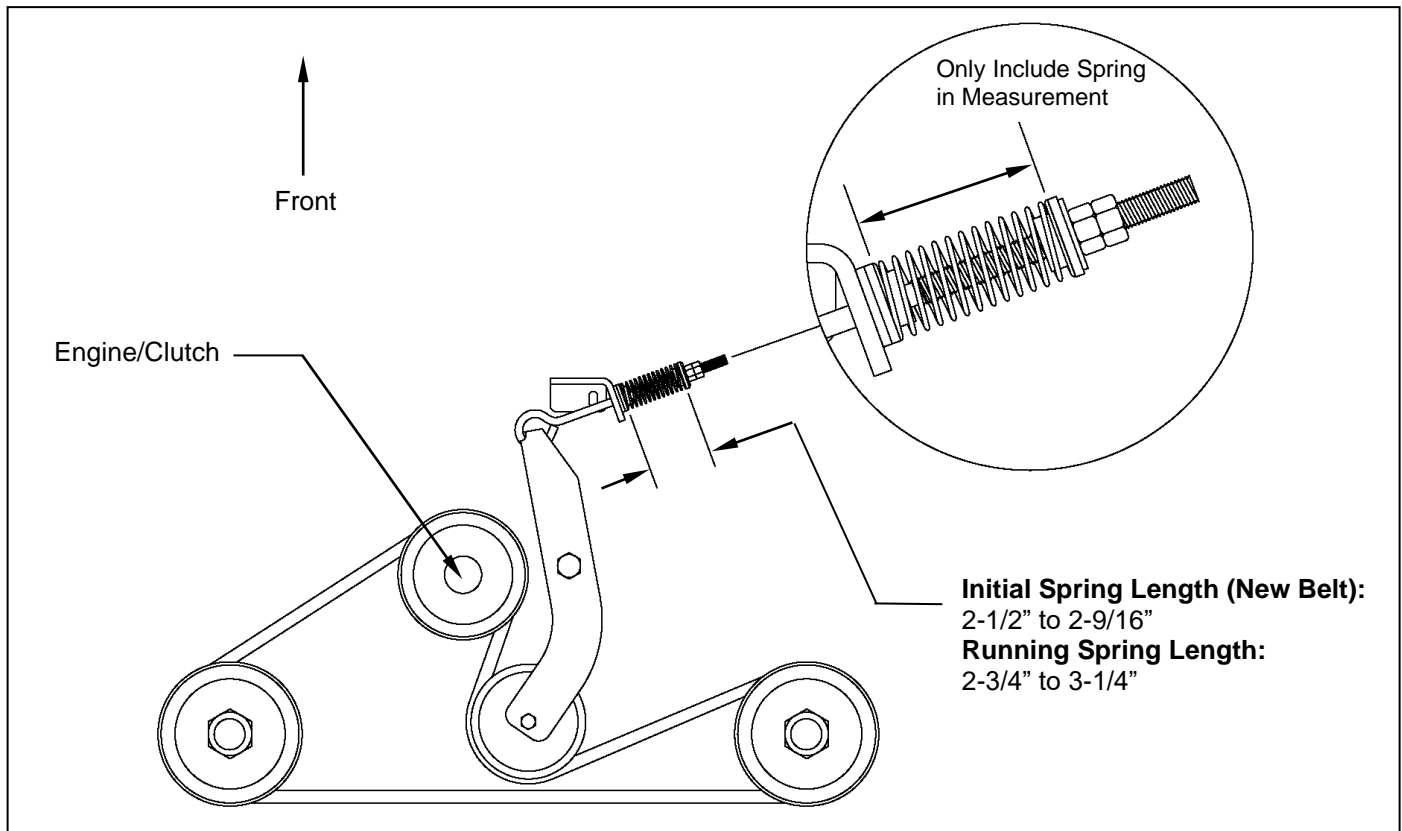

Figure 10: Belt Pattern, Spring Adjustment, and Brake Adjustment
A. DRIVE BELT REMOVAL AND TENSION – Refer to Figure 10
Install the new belt and then adjust the tension as follows: **See Figure 10.**